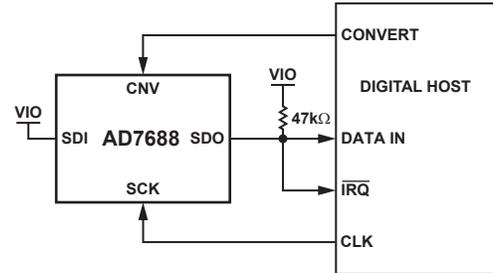
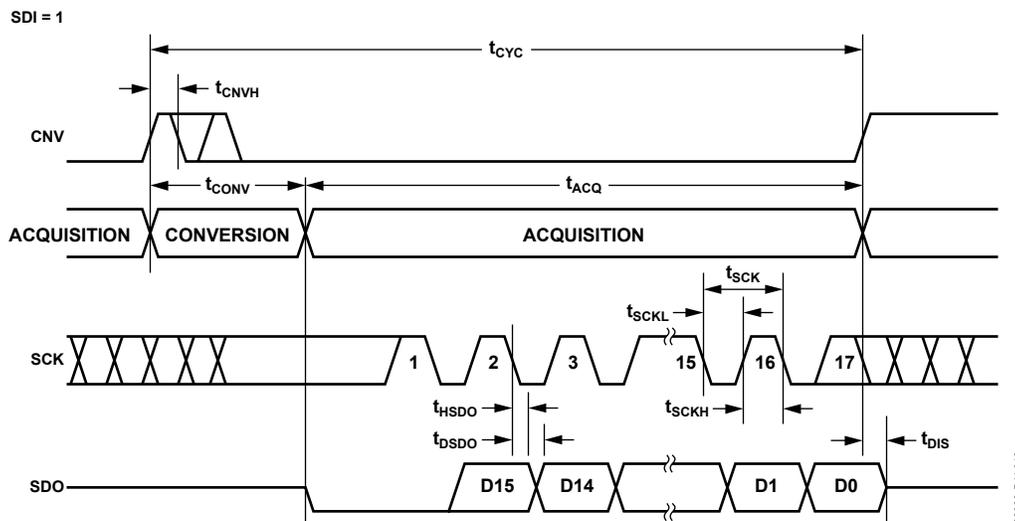
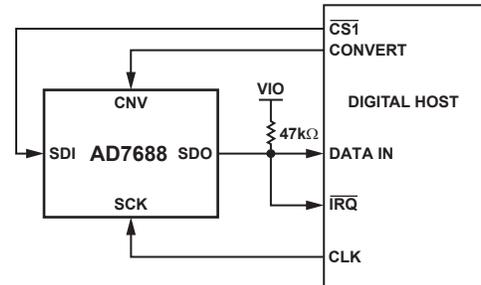
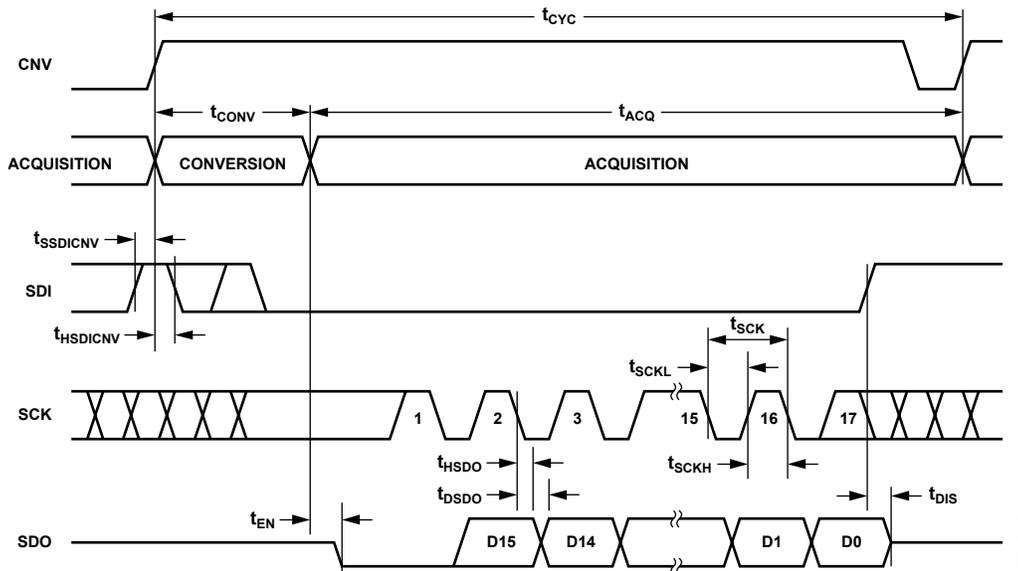

Figure 32. \overline{CS} Mode 3-Wire with *BUSY* Indicator Connection Diagram (SDI High)
Figure 33. \overline{CS} Mode 3-Wire with *BUSY* Indicator Serial Interface Timing (SDI High)
Figure 36. \overline{CS} Mode 4-Wire with BUSY Indicator Connection Diagram
Figure 37. \overline{CS} Mode 4-Wire with BUSY Indicator Serial Interface Timing
- In the $\overline{\text{CS}}$ mode, if CNV or SDI is low when the ADC conversion ends (Figure 33 and Figure 37).
The connection diagram is shown in Figure 32 and the corresponding timing is given in Figure 33.
The connection diagram is shown in Figure 36 and the corresponding timing is given in Figure 37.